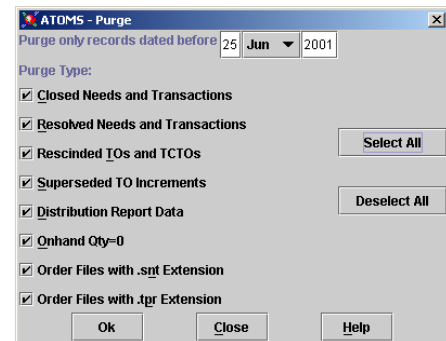

Figure 4-22. Purge Window
- 2) After the Back-Up decision is made, the **Purge** window appears (Figure 4-22).